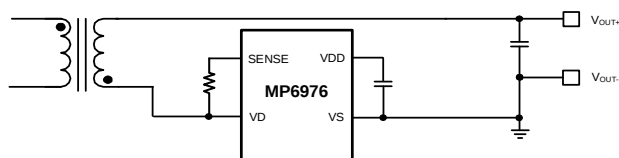

Figure 3: Low-Side Rectification
Figure 3 shows the typical system IC implementation for low-side (LS) rectification.